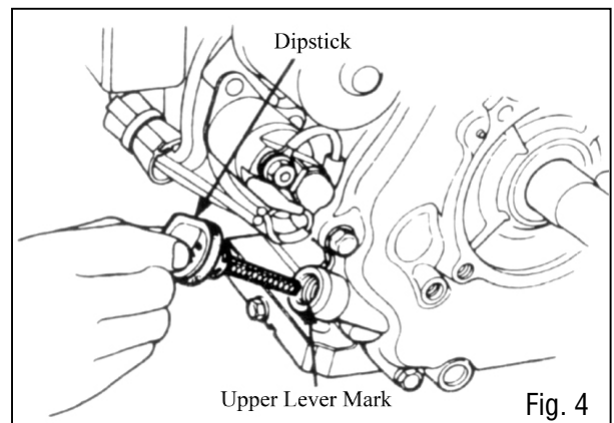

Fig. 4
3. Remove the dipstick (C) and wipe with a clean cloth.
4. Insert the dipstick into the filler neck and screw it in as shown in Fig. 4.